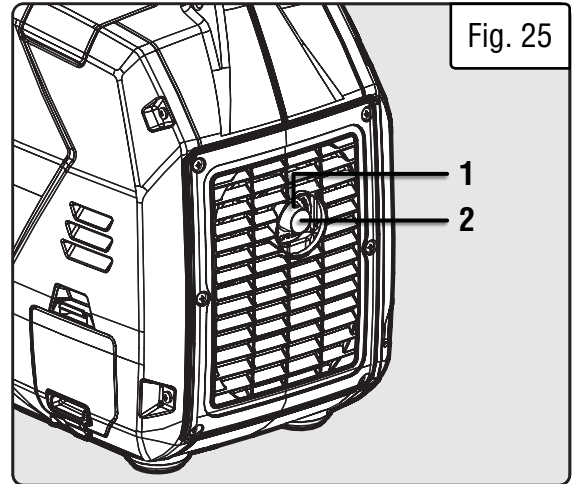

Fig. 25
It is recommended to inspect and clean the spark arrestor (Fig. 25 - 2) every 100 hours of operation.
3. Remove screw that holds spark arrestor to muffler (Fig. 25 - 1).